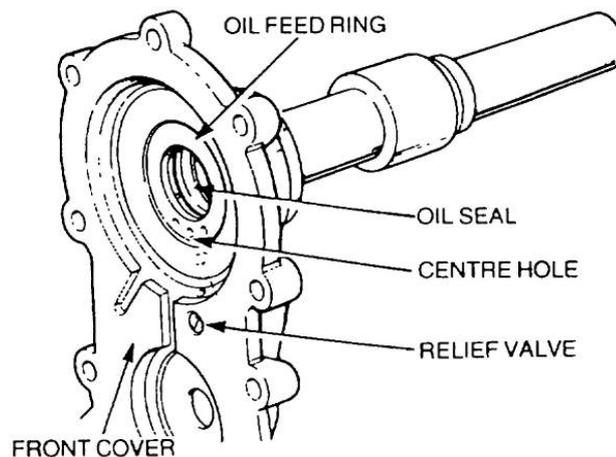

Figure 84 Installation of the Oil Feed Ring and Relief Valve
- h. Ensure the centre oil hole on the oil feed ring aligns with the oil delivery hole in the front cover. Using special tools 18G134 and 18G134DG, press in the oil feed ring (Figure 84). Ensure that the relief valve ball and spring are serviceable and check that the retaining plug is approximately one thread or 0.25 mm (0.010 in) below the front cover rear face.